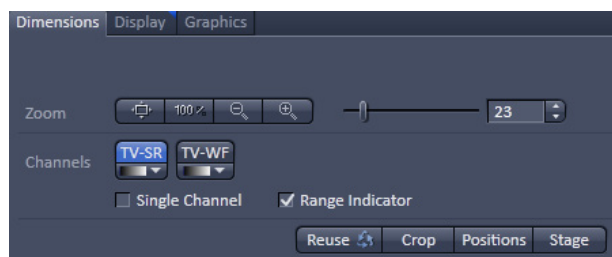

Fig. 36 Dimensions view control tab for a SIM image
- In the **Dimensions** view control tab check the Range Indicator box (Fig. 36).